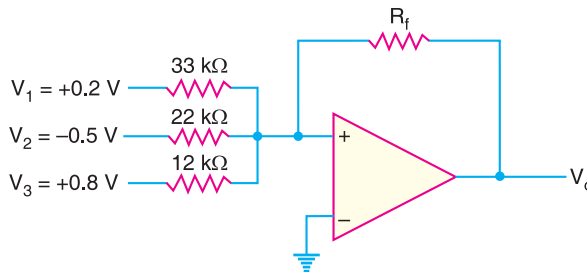

Fig. 25.106
13. Calculate the output voltage of the circuit in Fig. 25.106 for $R_f = 68 \text{ k}\Omega$.